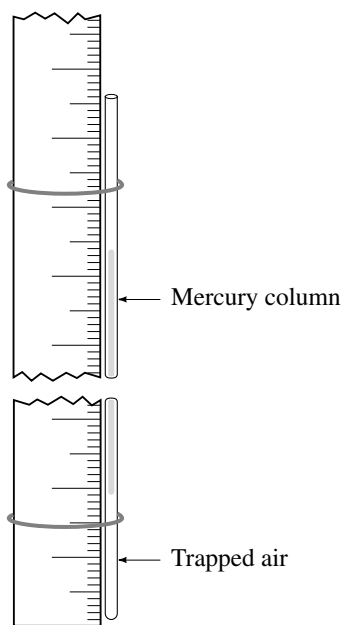

Figure 10.1
1. Obtain a Boyle's Law apparatus and a 30°-60°-90° plastic triangle. The Boyle's Law apparatus consists of a piece of glass tubing that contains a column of mercury and is attached to a ruler by means of rubber bands (Figure 10.1).
2. Record the temperature on the Report Sheet (1).
3. Record the barometric pressure, P_{atm} , in mm Hg on the Report Sheet (2).
4. Measure the length of the column of mercury, L_{Hg} , to the nearest 0.5 mm; record this length on the Report Sheet (3).